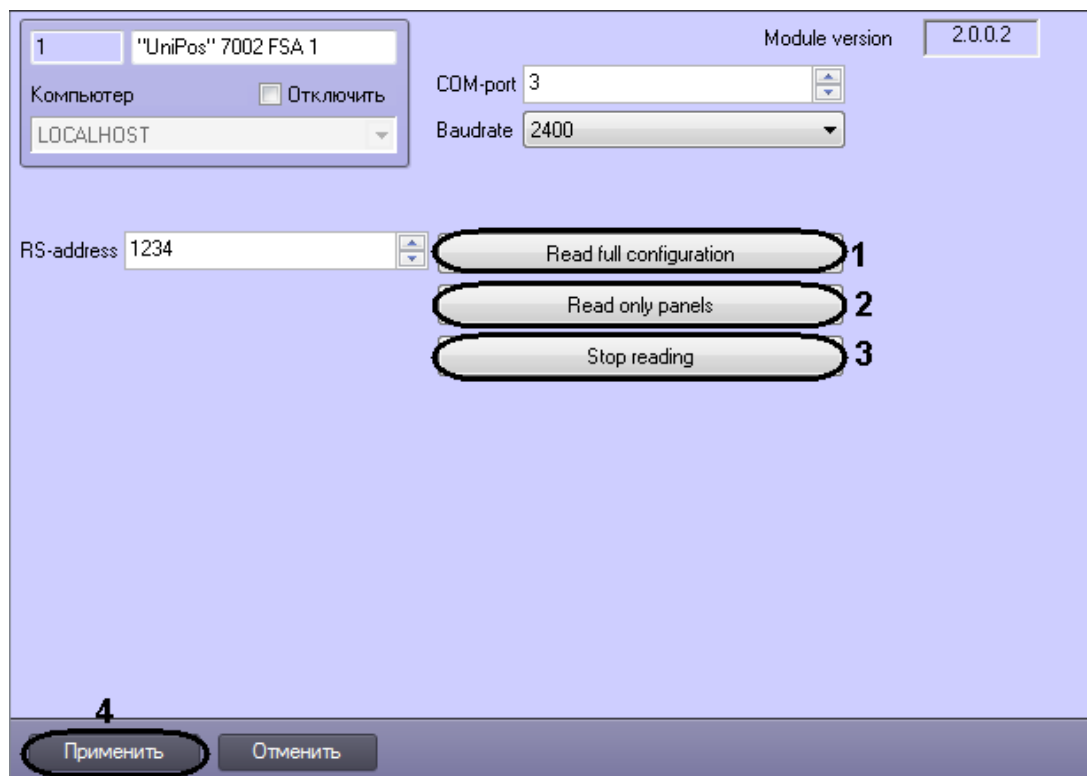

Fig. 3.3—1 Reading UniPos 7002 FSA device configuration
1. Go to settings panel of the **UniPos 7002 FSA** object (Fig. 3.3—1).
2. Click the **Read full configuration** button to read the full system configuration (Fig. 3.3—1, **1**).
3. Click the **Read only panels** button to read only panels (Fig. 3.3—1, **2**). Detailed structure of child objects is not created.
4. Click the **Stop reading** button to stop the configuration reading (Fig. 3.3—1, **3**).
5. Click **Apply** to save changes (Fig. 3.3—1, **4**).